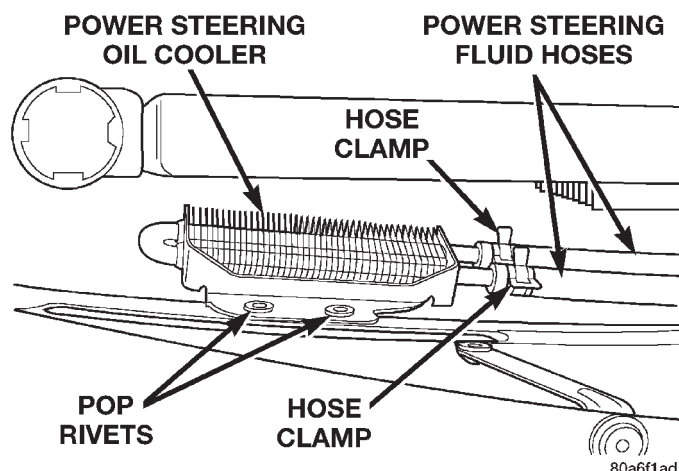

Fig. 21 Hose Clamps At Power Steering Fluid Cooler
(1) Remove the battery cable from the negative terminal of the battery. Properly isolate the battery cable from the negative terminal of the battery.
(2) Using a siphon pump, remove as much power steering fluid as possible from the power steering fluid reservoir.
(3) Remove the hose clamps (Fig. 21) from the power steering fluid hoses. Drain power steering fluid from the hoses and the power steering fluid cooler.
(2) Install the hose clamps on the power steering fluid hoses.
(3) Install the power steering fluid hoses on the oil cooler.
(4) Install the hose clamps on the power steering fluid hoses (Fig. 21). **Be sure clamps are installed on hoses past the upset beads on the power steering oil cooler hose fittings.**
(5) Raise the vehicle to a point where the front tires are just off the ground.
(6) Start the engine and let it run for a few seconds. Then turn the engine off.
(7) Add power steering fluid to the reservoir as necessary to bring it up to the proper FULL level when cold. Repeat the above procedure until the fluid level remains constant after running the engine.
(8) Start the engine.
(9) Slowly turn the steering wheel to the right and left, until lightly contacting the stops.
(10) Turn off the engine. Check the fluid level and refill as required.
(11) If the fluid is extremely foamy, allow the vehicle to stand a few minutes and repeat the above procedure.